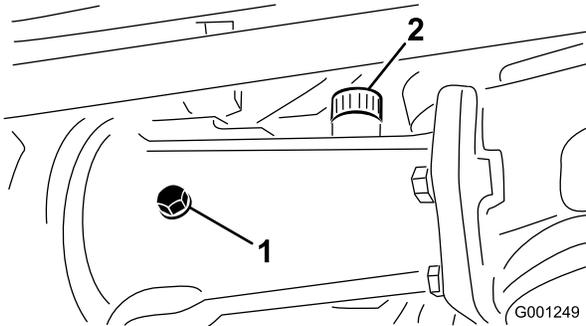
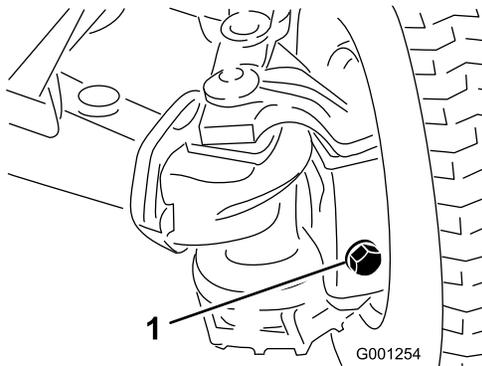

Figure 27
Figure 28
2. Remove check plugs from axle and make sure lubricant is up to bottom of each hole. If level is low, remove fill plugs and add enough lubricant to bring the level up to the bottom of the check plug holes (Figure 27 and Figure 28).